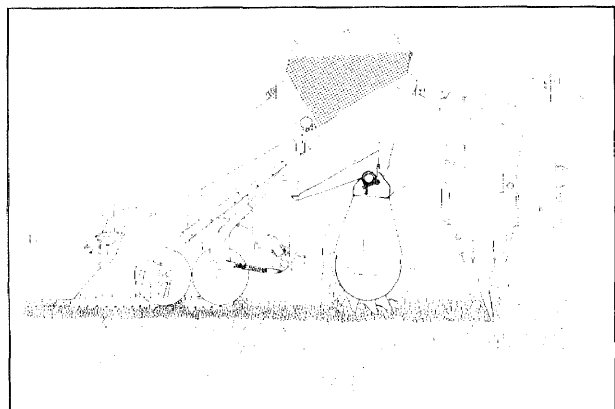

Fig. 6
- **AMAZONE Rotary cultivator with Pack Top seed drill equipped with roll disc coulters** (Fig. 6) on all soils (also when extremely clayey or stony) with or without preseeding operation by subsoiler or plough with or without organic matter on the surface.